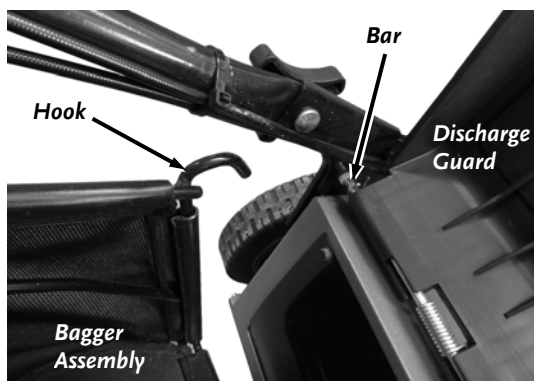

Figure 15
1. Hold the Discharge Guard in the upright position (*Figure 15*).